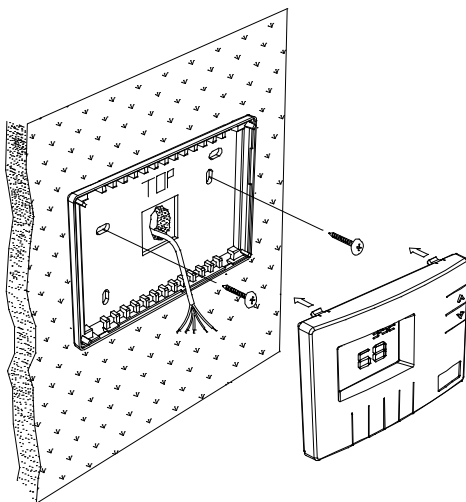

Figure 1 - *Mounting thermostat base*
5. Mount the base to the wall using the two #6 x 1/2" self-tapping screws supplied - *See Figure 1.*